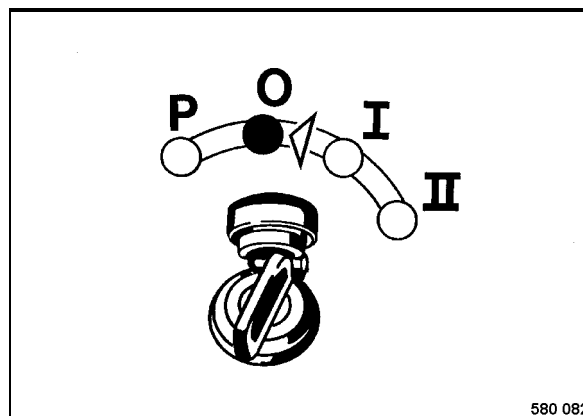

Fig. 49
- Turn the ignition switch (Fig. 49) to position "O" or "P" and pull the ignition key out.